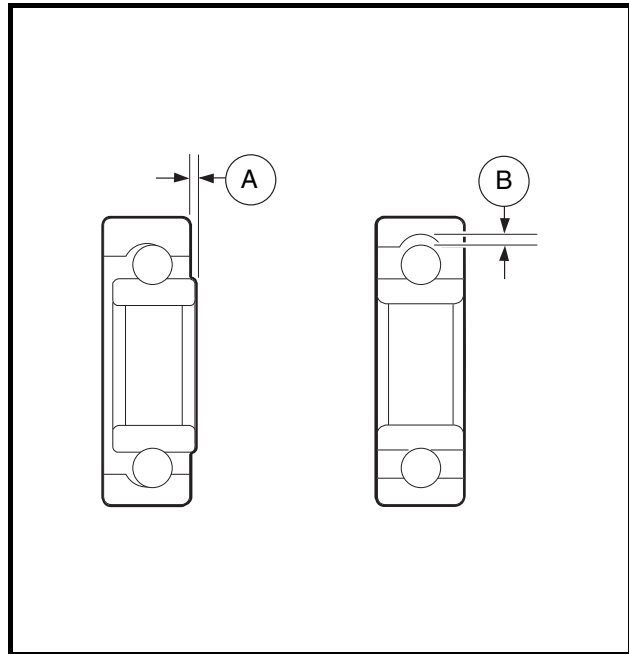

Figure 15-9 Bearing Inspection
1. Using a clean cloth, wipe the carbon dust off the bearing. Inspect the bearing by spinning it by hand and checking for both axial (A) and radial (B) play (**Figure 15-9, Page 15-8**).